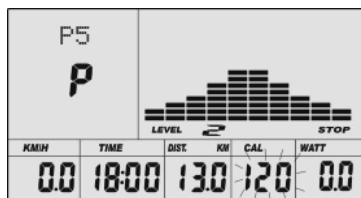

Fig 28
- E. The calories will flash, and then press (or rotate) UP, DOWN to set up the desired calories to be consumed. Press ENTER to confirm the value. (See Fig 28)